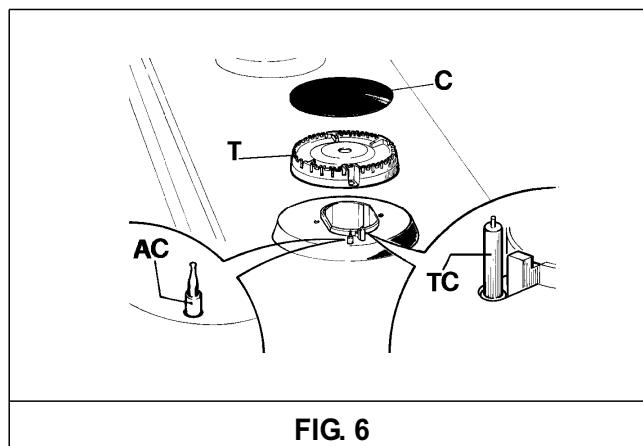

FIG. 6
Periodically wash the hot plate, the enamelled steel pan support, the enamelled burner caps "C" and the burner heads "T" (see fig. 6) with lukewarm soapy water. Following this, all parts should be thoroughly rinsed and dried. Never wash them while they are still warm and never use abrasive powders. Do not allow vinegar, coffee, milk, salted water, lemon or tomato juice from remaining in contact with the enamelled surfaces for long periods of time.
- *check that burner head slots "T" (fig. 6) have not become clogged by foreign bodies.*
- *Check that enamelled burner cap "C" (fig. 6) have correctly positioned on the burner head. It must be steady.*